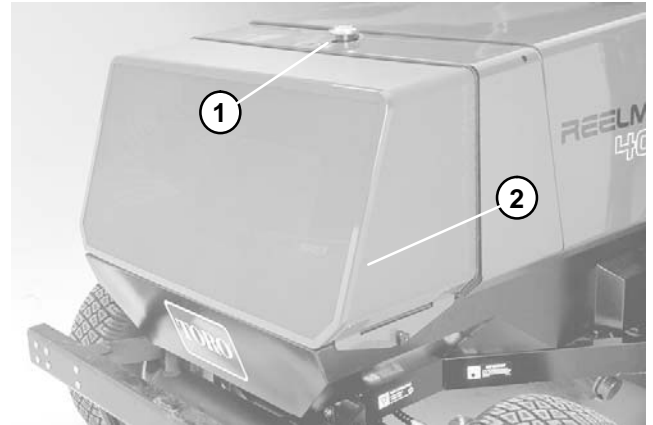
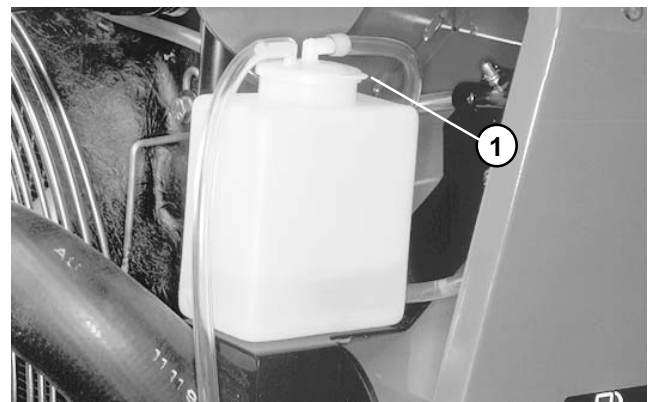

Figure 4
Figure 5
2. Carefully remove radiator cap (Fig. 4) and expansion tank cap (Fig. 5).